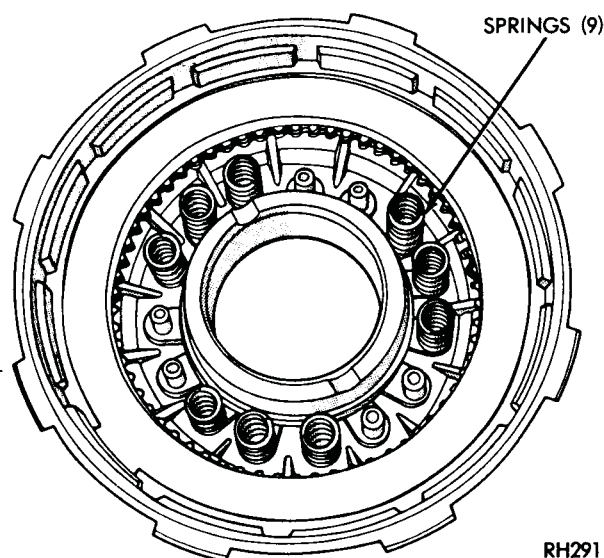

Fig. 25—Front Clutch Spring Location (9 Springs)
(1) Lubricate and install inner seal on hub of clutch retainer. Make sure lip of seal faces down and seal is properly seated in the groove.
(2) Install outer seal on the clutch piston, with lip of seal toward bottom of clutch retainer. Apply a coating of wax type lubricant or Door Ease to outer edge of seals and press seal to bottom of its groove around piston diameter for easier installation of piston assembly. Place piston assembly in retainer and carefully seat piston in bottom of retainer.
(3) Refer to "Specifications" and install proper number of springs on piston exactly as shown in Figure 25 or 26. Position spring retainer and snap ring over the springs. Compress springs with Tool C-3863-A (Fig. 23), and seat snap ring in hub groove. Remove compressor tool.
(4) Lubricate all clutch plates, install one steel plate followed by a lined plate (disc) until the number given in specifications is installed. Install pressure plate and snap ring. Make sure snap ring is properly seated.